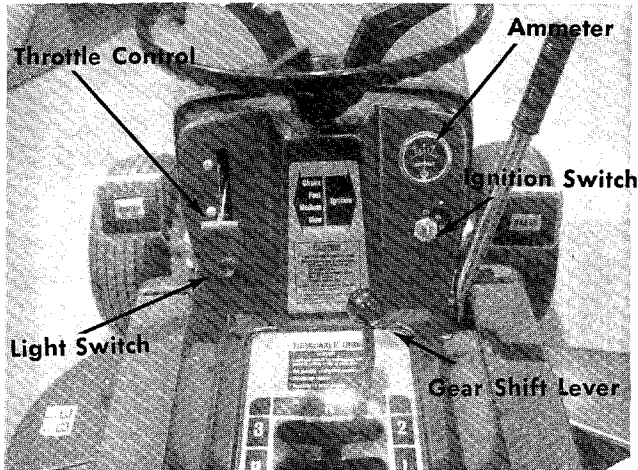

FIGURE 5. CONTROLS
a. **Throttle Control.** The throttle control is used to regulate the engine speed and choke the engine. The engine should be operated from $\frac{3}{4}$ to full throttle when operating the cutting deck or snow thrower (optional). See figure 5.
b. **Gear Shift Lever.** The gear shift lever is used to shift into one of three FORWARD GEARS, NEUTRAL or REVERSE. See figures 5 and 6.
g. **Ammeter.** The ammeter registers the rate of battery charge or discharge. The ammeter should register on the plus side (+) when the engine is running in the fast position until the battery is completely charged. With a fully charged battery or with the engine idling the ammeter will not show a charge. See figure 5.
h. **Light Switch.** Pull the light switch out to turn on the lights. The lights will only operate when the engine is running. See figure 5.
Electric Start. See figure 5. Turn the key to the START position to start the engine. When the engine is running, let the key return to the ON position. To stop the engine, turn the key to the left to the OFF position and remove it to prevent accidental starting.
Step 4. Set the throttle control in the CHOKE position. See figure 5.